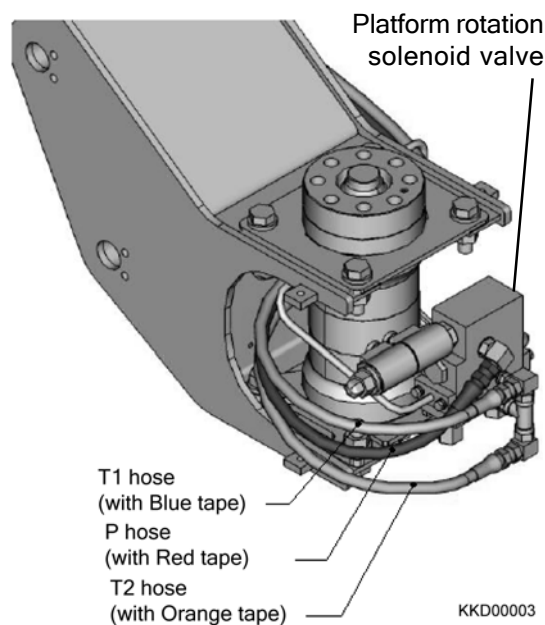

Fig. 2-32
- 7) Tag, Disconnect the T1 hose, P hose and T2 hose from the platform rotation solenoid valve (Fig. 2-32), and then plug the fittings on the valve and hose ends.